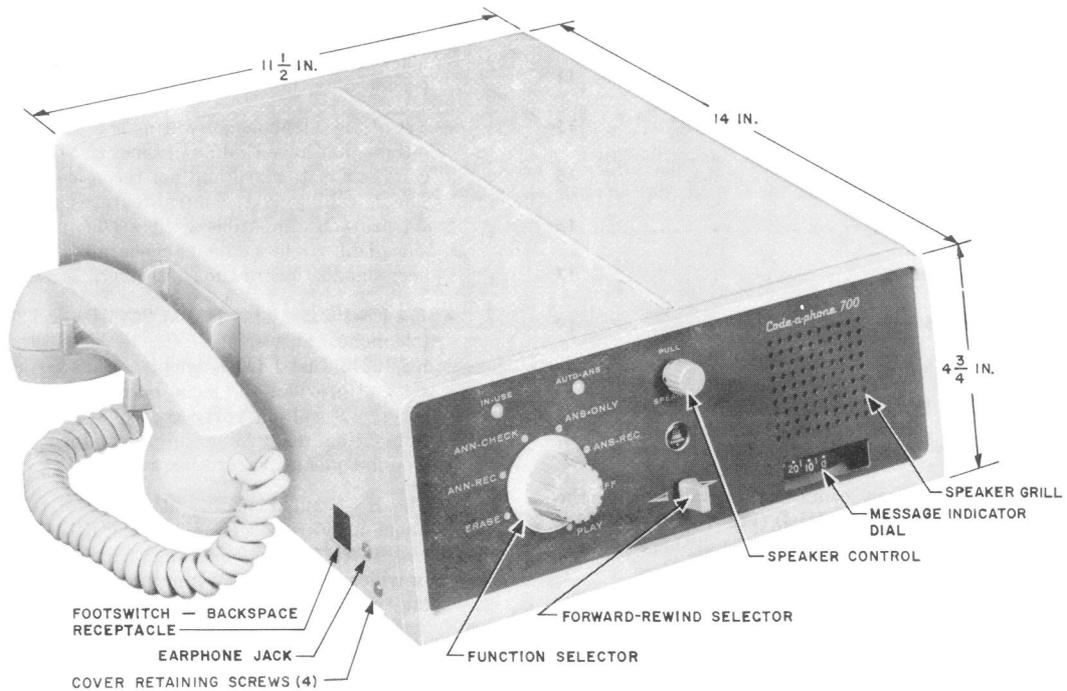
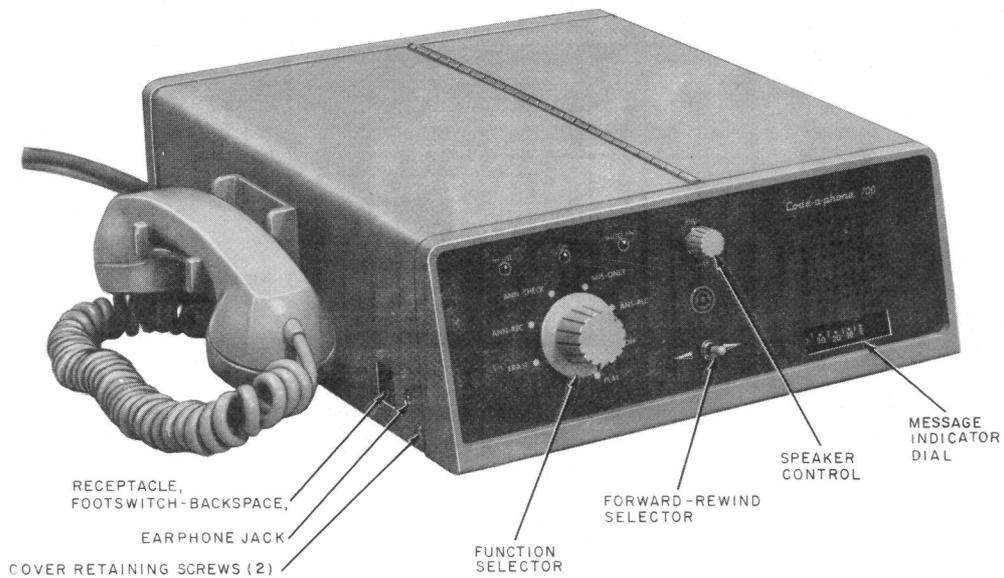
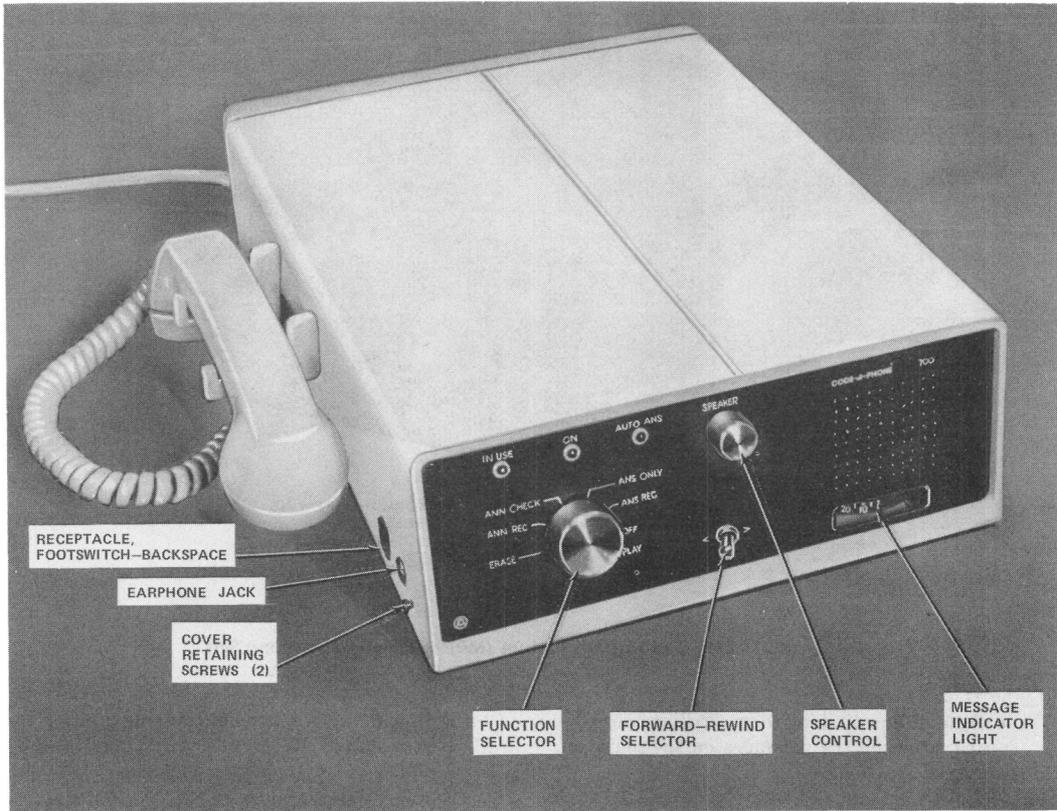

Fig. 1—KS-19245, List 1 (MD) Telephone Answering Set
Fig. 2—KS-19245, Lists 13 (MD) and 24 (MD) Telephone Answering Sets
Fig. 3—KS-19245, List 26 Telephone Answering Set
1.01 This section contains information on the KS-19245, List 1 (MD) (Fig. 1), List 13 (MD), List 24 (Fig. 2), and List 26 (Fig. 3) telephone answering sets.
2.01 The KS-19245, Lists 1 (MD), 13 (MD), and 24 (MD), and 26 telephone answering sets (Fig. 1, 2, and 3) are automatic answering sets for either answer and record, or answer only service.
- The use of the KS-19245, Lists 13 (MD), 24 (MD), and 26 behind a DIMENSION® PRX equipped with a 120B ring generator is not recommended. The ring detector circuitry is not compatible with the level of distortion produced by this generator.
- The KS-19245, Lists 13 (MD), 24 (MD), and 26 telephone answering set replaces the KS-19245, List 1 (MD) telephone answering set and provides the same operational features plus calling party control (CPC) options, ring delay, and an input jack for modular mounting cord installations.
- The KS-19245, Lists 24 (MD) and 26 telephone answering set replaces the KS-19245, List 13 (MD) telephone answering set and provides a six terminal input jack for modular mounting cord installation.
- Calling party control options provide selection of interrupt time from 0.5 to 450 milliseconds [Lists 13 (MD), 24 (MD), and 26 telephone answering sets only].
- Ring delay. Answer on first ring or after approximately 12 seconds of ringing [Lists 13 (MD), 24 (MD), and 26 telephone answering sets only].
- Modular connections [Lists 13 (MD), 24 (MD), and 26 telephone answering sets only].
- Housed in a metal case. The cover has a light olive gray textured finish and the front panel has a blue-gray enamel finish for the Lists 1 (MD), 13 (MD), and 24 (MD). The cover is ivory and the front panel is dark brown for the List 26 telephone answering set. Dimensions of the Lists 1 (MD), 13 (MD), 24 (MD), and 26 telephone answering sets are shown on Fig. 1. Weight of List 1 (MD) telephone set is 31 pounds and of Lists 13 (MD), 24 (MD), and 26 telephone answering sets is 24 pounds.
4.01 Refer to Fig. 1 or 2.